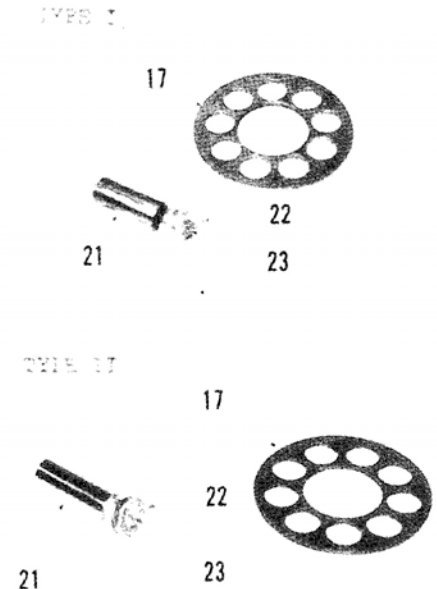

Fig. 61— View showing Type I and Type II piston barrel (21), slipper (22), lubricant hole (23) and retainer plate (17).
Separate input shaft from charge pump case, then inspect shaft for excessive wear and any other damage. Check pistons for smooth movement through cylinder block bores. Examine piston barrel (21—Fig. 61) and cylinder block bores for scratches, burrs, excessive wear and any other damage. Inspect slipper (22) for excessive wear; minimum allowable thickness is 2.90 mm (0.114 inch).